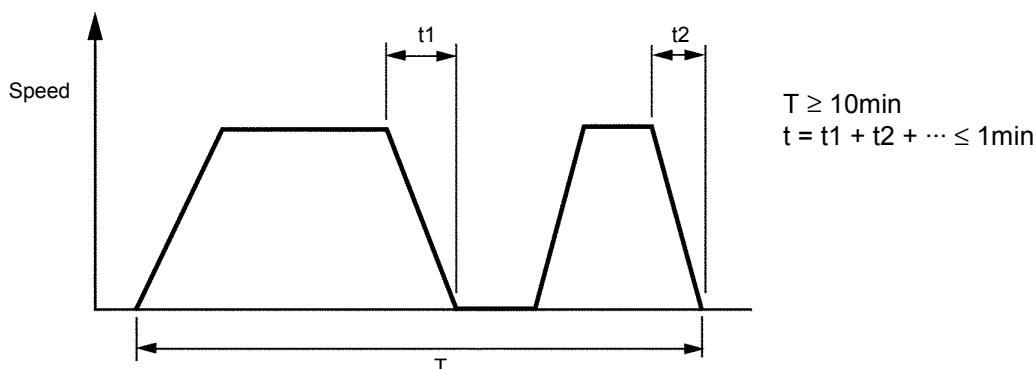
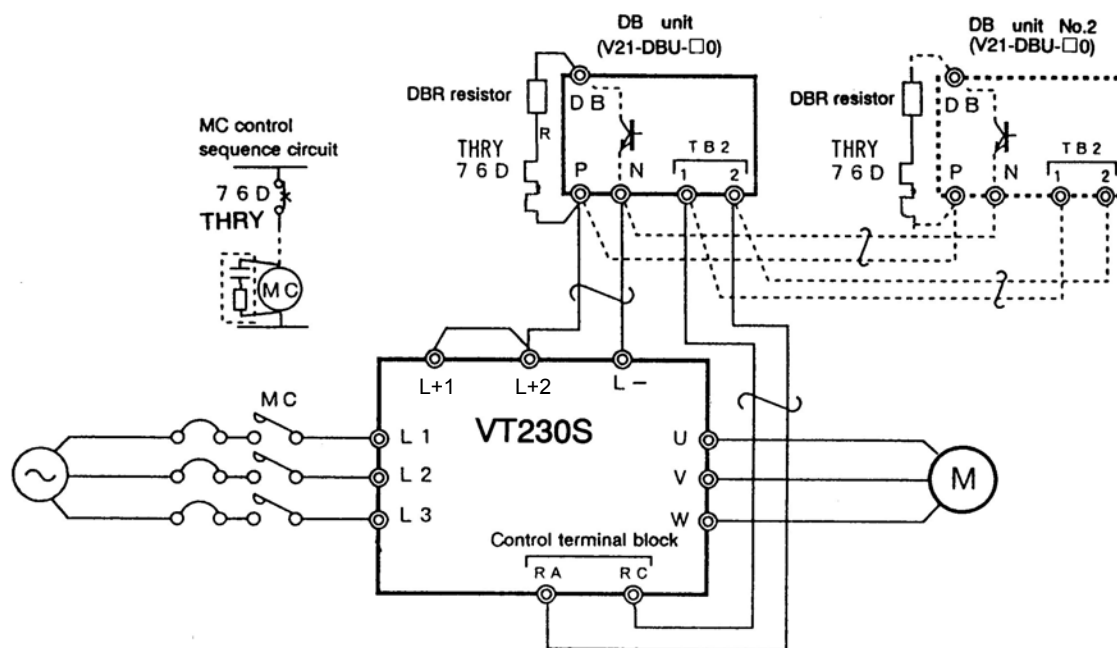

Fig. 7-2
Fig. 7-5 DB connection
When using the DB, use at 10%ED or less as shown in Fig. 7-2.
Connect the DB unit as shown in Fig. 7-4. When carrying out dynamic braking with one DB unit, use at 10%ED or less as shown in Fig. 7-2. If the braking torque is insufficient with one unit, connect a DB unit in parallel. Refer to V23-DBU Instruction Manual (ST-3296) for details.
- (1) When carrying out dynamic braking with the 055H and larger, and 045L and larger unit, use the V21-DBU unit. Connect the DB unit as shown in Fig. 7-5. When carrying out dynamic braking with one DB unit, use at 10%ED or less as shown in Fig. 7-2. If the braking torque is insufficient with one unit, connect a DB unit in parallel.
- (2) Connect the inverter control terminal block RA and RC terminals with the DB unit control terminal TB2 so that the DBR unit will function only while the inverter is running.
- (5) Use this DB unit at 10% ED or less as shown in Fig. 7-2.
- (6) Obtain the power generation capacity and DBR resistance value with the following expressions.